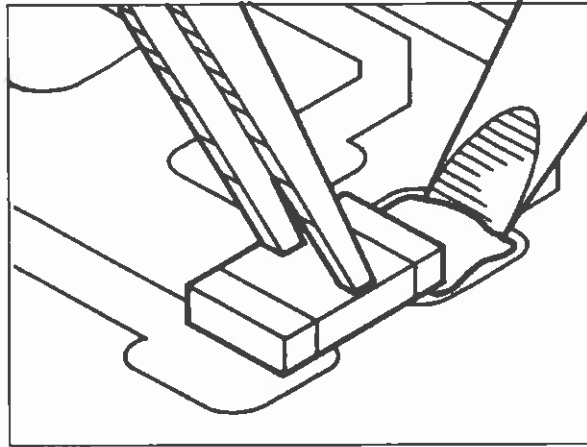

Figure 4 - 4
- With one component end tacked to hold it, the other end can be soldered. Carefully apply heat to the PC pad while adding only enough fresh solder to produce a clean fillet as in Figure 4 - 5—do not apply too much solder, otherwise it may flow underneath and short the pads together. Let the hot solder flow onto the component—do not touch the component with the iron. Repeat to finish the other end of the component. Solder must adhere to all metallic end-surfaces on both ends as shown in Figure 4 - 6.